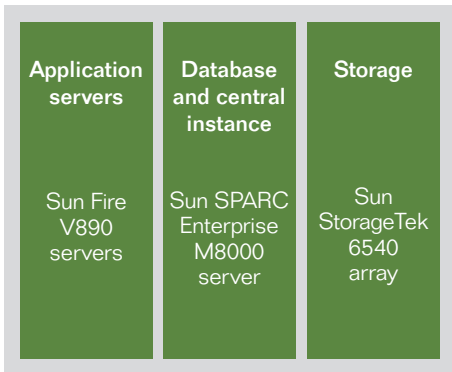

Figure 2: Hardware Configuration Used in the Performance Showcase
As shown in Figure 2, the central instance (CI) was a Sun SPARC Enterprise M8000 server with an Oracle database, the SAP instance, and Solaris Resource Manager to fence the resource consumption of the SAP instance. Application servers were two Sun Fire V890 servers.